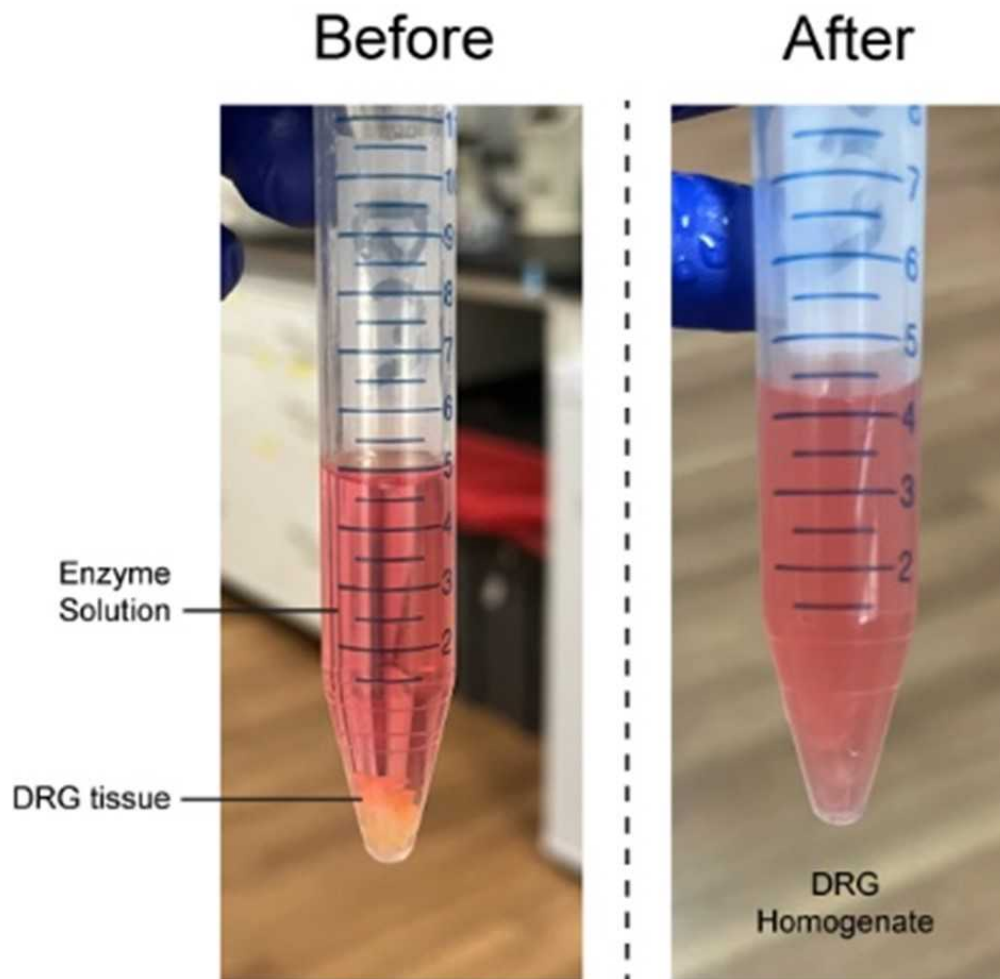

Fig 2.
- 13 Transfer DRG pieces to the pre-warmed enzyme solution using sterile forceps (Fig 2)